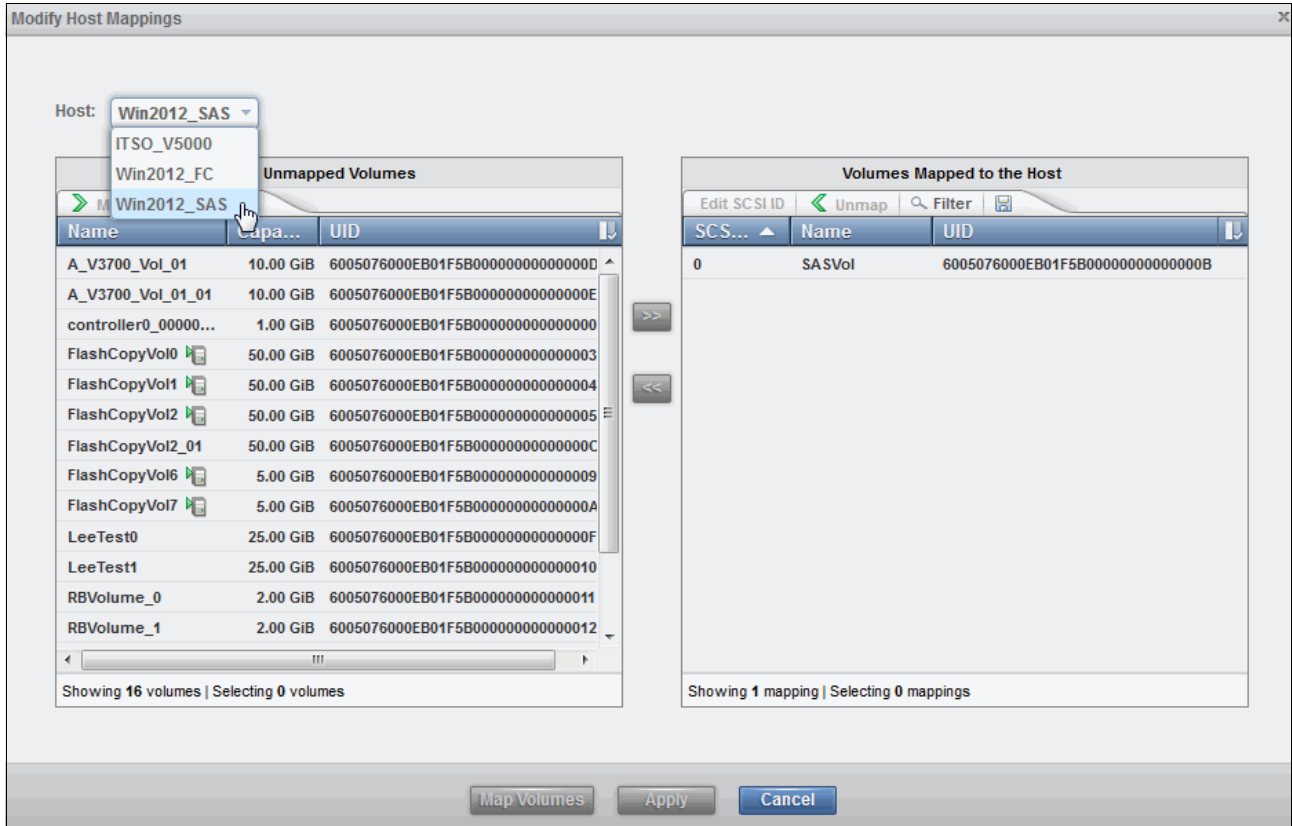

Figure 8-8 Selecting another host to modify
7. From the Modify Host Mappings pane, it is possible to modify another host by selecting it from the Hosts menu, as shown in Figure 8-8.